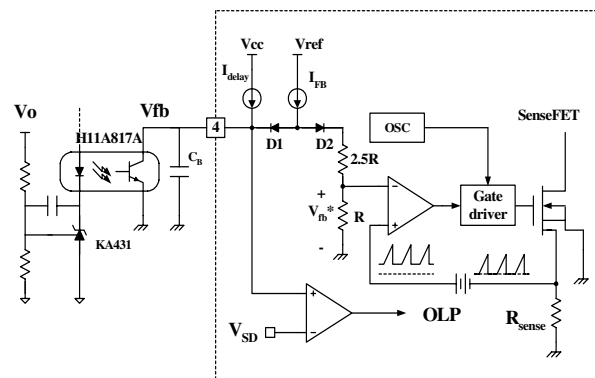

Figure 5. Pulse width modulation (PWM) circuit
**2. Feedback Control :** FSDM0565RB employs current mode control, as shown in Figure 5. An opto-coupler (such as the H11A817A) and shunt regulator (such as the KA431) are typically used to implement the feedback network. Comparing the feedback voltage with the voltage across the Rsense resistor plus an offset voltage makes it possible to control the switching duty cycle. When the reference pin voltage of 2.5V, the H11A817A LED current increases, thus pulling down the feedback voltage and reducing the duty cycle. This event typically happens when the input voltage is increased or the output load is decreased.
**2.1 Pulse-by-pulse current limit:** Because current mode control is employed, the peak current through the Sense FET is limited by the inverting input of PWM comparator (Vfb\*) as shown in Figure 5. Assuming that the 0.9mA current source flows only through the internal resistor (2.5R + R = 2.8 kΩ), the cathode voltage of diode D2 is about 2.5V. Since D1 is blocked when the feedback voltage (Vfb) exceeds 2.5V, the maximum voltage of the cathode of D2 is clamped at this voltage, thus clamping Vfb\*. Therefore, the peak value of the current through the Sense FET is limited.